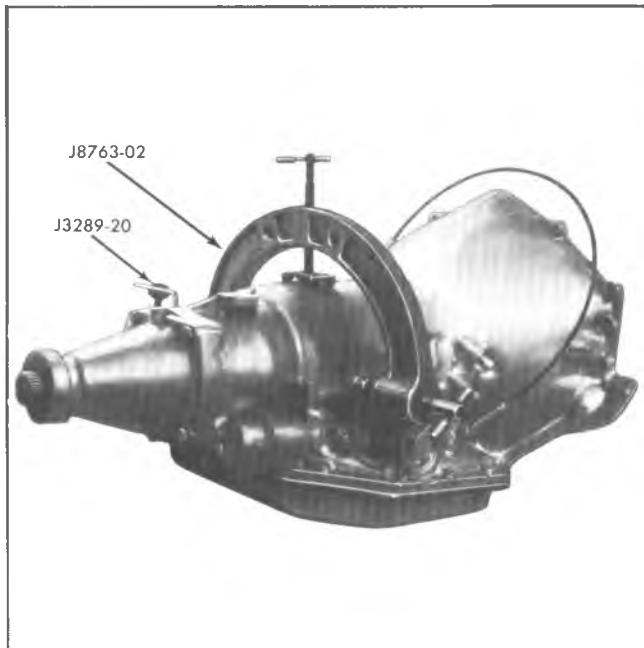

Fig. 2M-Transmission in Holding Fixture
1. Install Holding Fixture J-8763-02 on transmission and place into Holding Tool base J-3289-20 with converter facing up (fig. 2M).